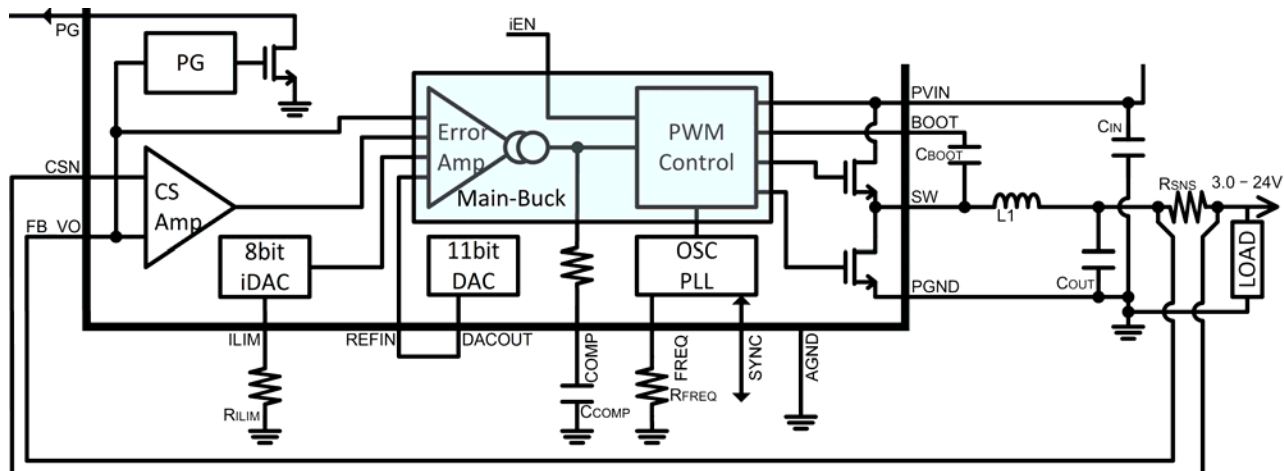

Figure 58. Main-buck Regulator
A compensation network is required between the COMP pin and the ground. See Figure 58 and Main-buck Compensation Network.
The ACT41000 provides a current sense (CS) amplifier to monitor its output current, I_{OUT} , precisely for the Programmable Current Limit and Over-Current Protection blocks. This CS amp uses the FB_VO pin and the CSN pin (current sense negative) as its differential inputs and generates a device internal signal, V_{CS} with a gain of 20, by following the Eq.\(10\). As shown in Figure 58, the FB_VO and the CSN pins are monitoring an external current sense resistor R_{CS} .